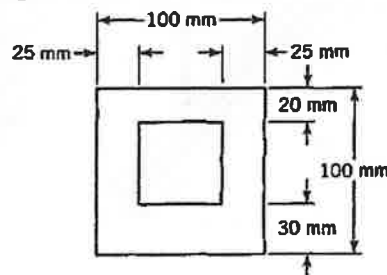

Fig. 4
13. A). An aluminum alloy ($E = 72 \text{ GPa}$) extrusion has the cross section shown in Fig. 4. A 2 m length of the extrusion is used as a pin-end column. 10M